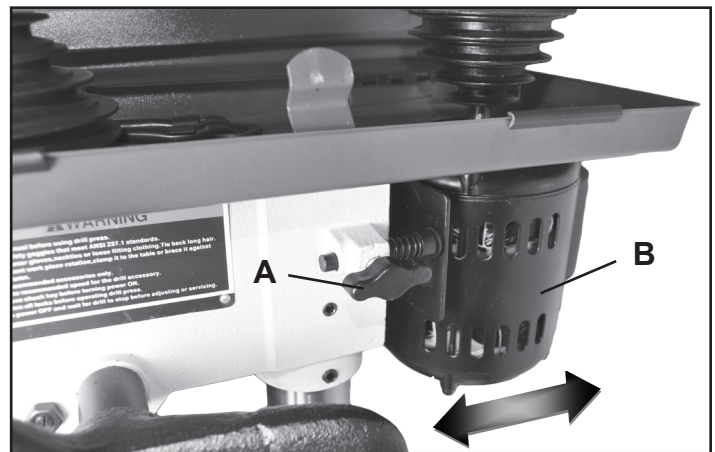

FIG. 11
B. Loosen the motor lock knob (FIG. 11, A), then move the motor (B) manually toward the feed handle to take tension off of the belt.